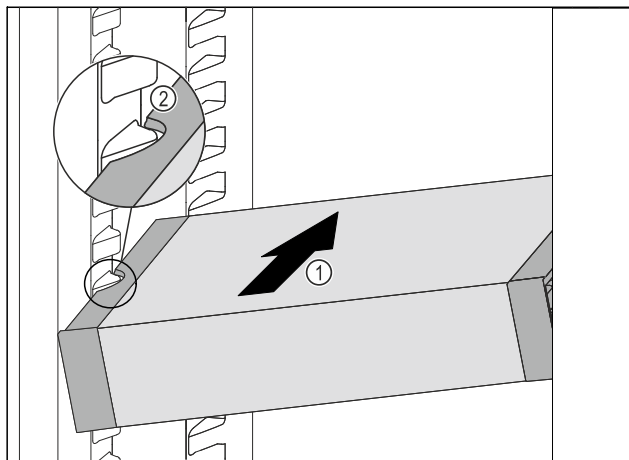

Fig. 94
- Insert the VarioSafe into the refrigerator compartment at an angle Fig. 94 (1) until the recesses in the side Fig. 94 (2) of the VarioSafe are at the level of the support rib in the refrigerator compartment.